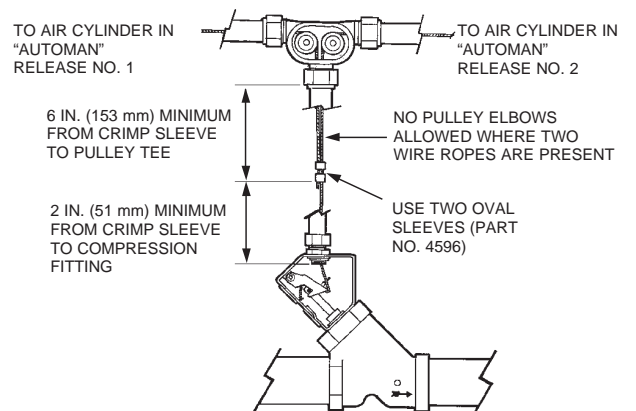

FIGURE 5-49
18. **Note:** If utilizing a pulley tee to operate either a single mechanical gas valve from two AUTOMAN releases or two mechanical gas valves from one air cylinder in an AUTOMAN release, see Figures 5-49 and 5-50 for installation instructions. Maximum length of wire rope to each AUTOMAN release must not exceed 150 ft (45.7 m) and maximum number of elbows must not exceed 20.